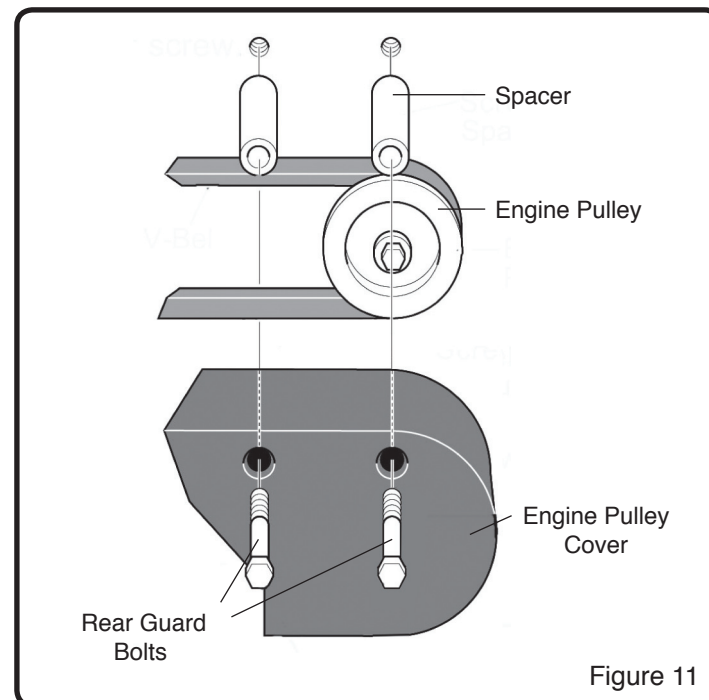

Figure 11
3. Remove the two rear guard bolts to remove the engine pulley cover. (See Figure 11)